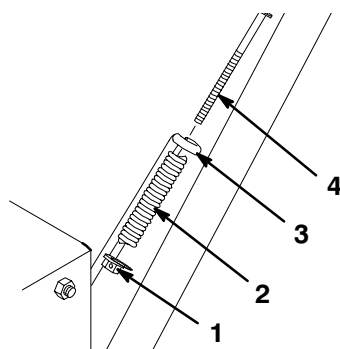

Figure 9
1. Slide the spring onto the bottom of the traction control rod (Fig. 9).
2. Thread a flange locknut (flange side up) onto the bottom of the traction control rod below the spring (Fig. 9).